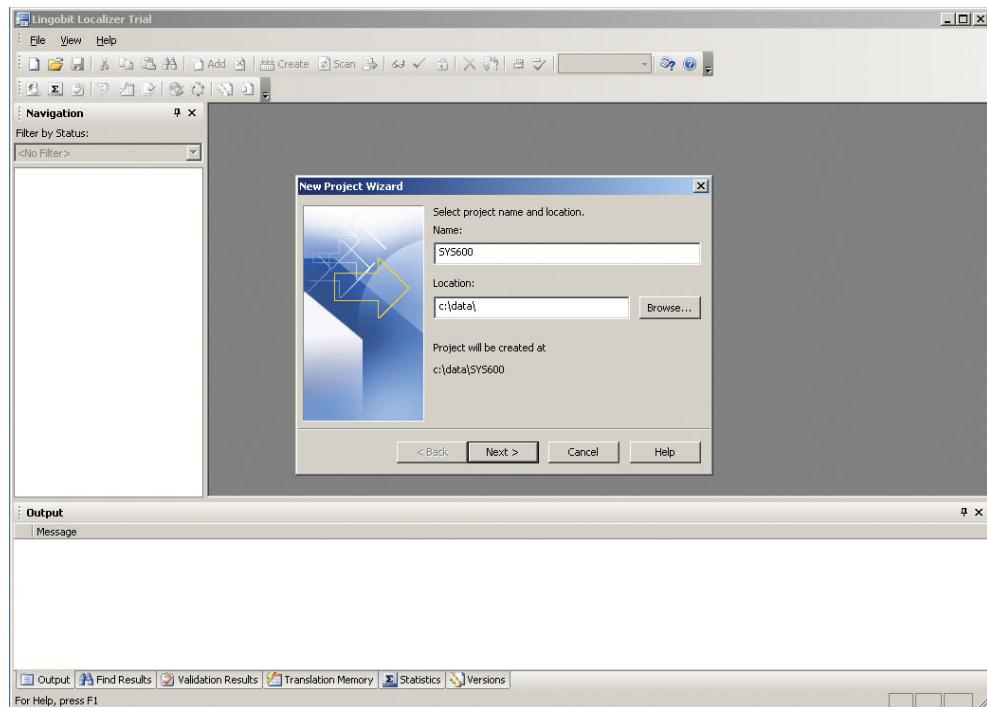

Figure 230: Main window of the Localizer and the Project Wizard dialog
1. Fill in the Name field with the project name and click **Browse** to find the project location, see Figure 230.